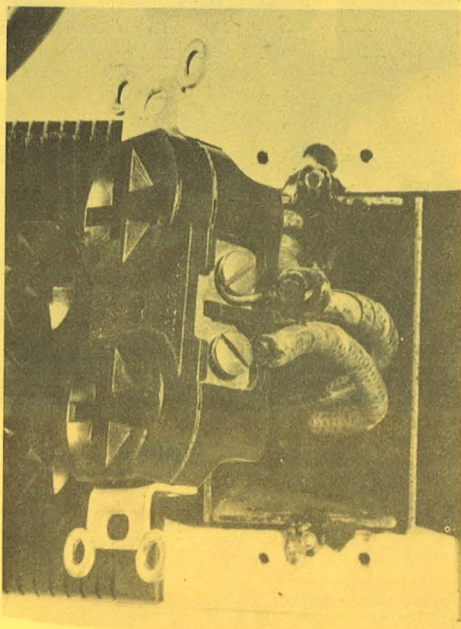

Figure 3
4. Remove the top and bottom screws and take out the receptacle (Fig. 3).